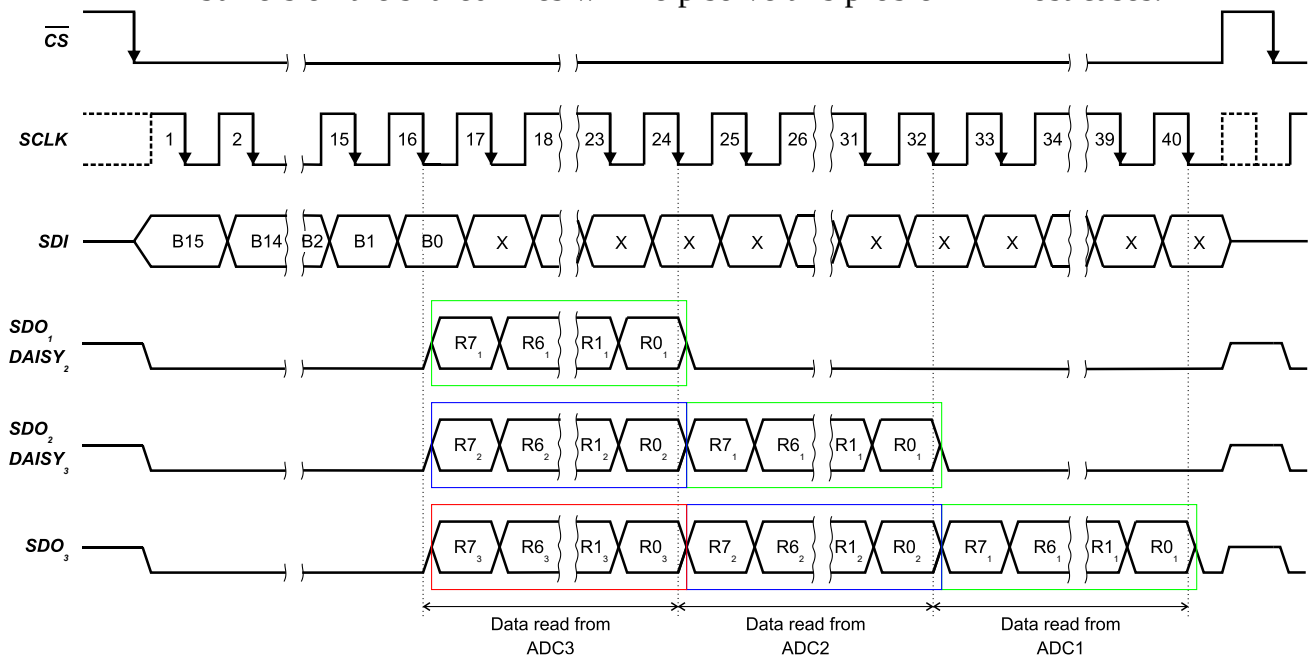

Figure 14 – Timing diagram of three devices in a Daisy Chain when reading internal registers
- Reading registers takes 8 clock cycles instead of 16, so propagating the read data through the Daisy Chain takes less time: for three devices – 40 clock cycles (Figure 14).